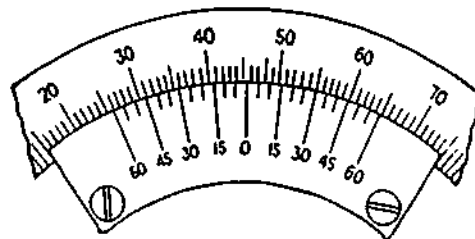

Figure 2-63. Angular Vernier Scale
**Example 1:** (see Figure 2-63)